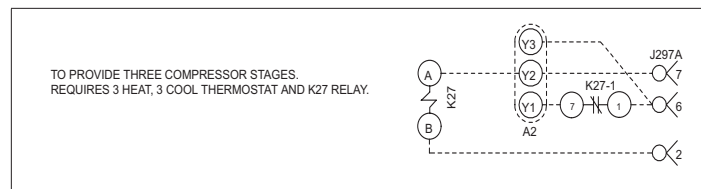

Figure 33. Third-Stage Cool (Parameter 111) Wiring
- **Option 3. Three Cooling Stages:** Cooling operation is shown in “Table 7. Thermostat Mode Operation Default (Three Cooling Stages Parameter 113)” on page 29; this option requires the use of a three-stage cool thermostat and a K27 relay. See wiring pictorial in “Figure 33. Third-Stage Cool (Parameter 111) Wiring” on page 28 and C section control wiring diagram.